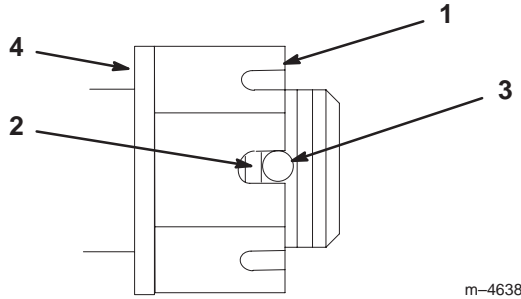

Figure 49
3. Torque slotted nut to 125 ft-lb (170 N•m) (Fig. 49).
4. Check the distance from bottom of slot in nut to inside edge of hole. Two threads or less should be showing (Fig. 49).
5. If more than two threads are showing remove nut and install washer between hub and nut (Fig. 49).
6. Torque the slotted nut to 125 ft-lb. (170 N•m) (Fig. 49).
7. Tighten nut until the next set of slots line up with the hole in the shaft (Fig. 49).